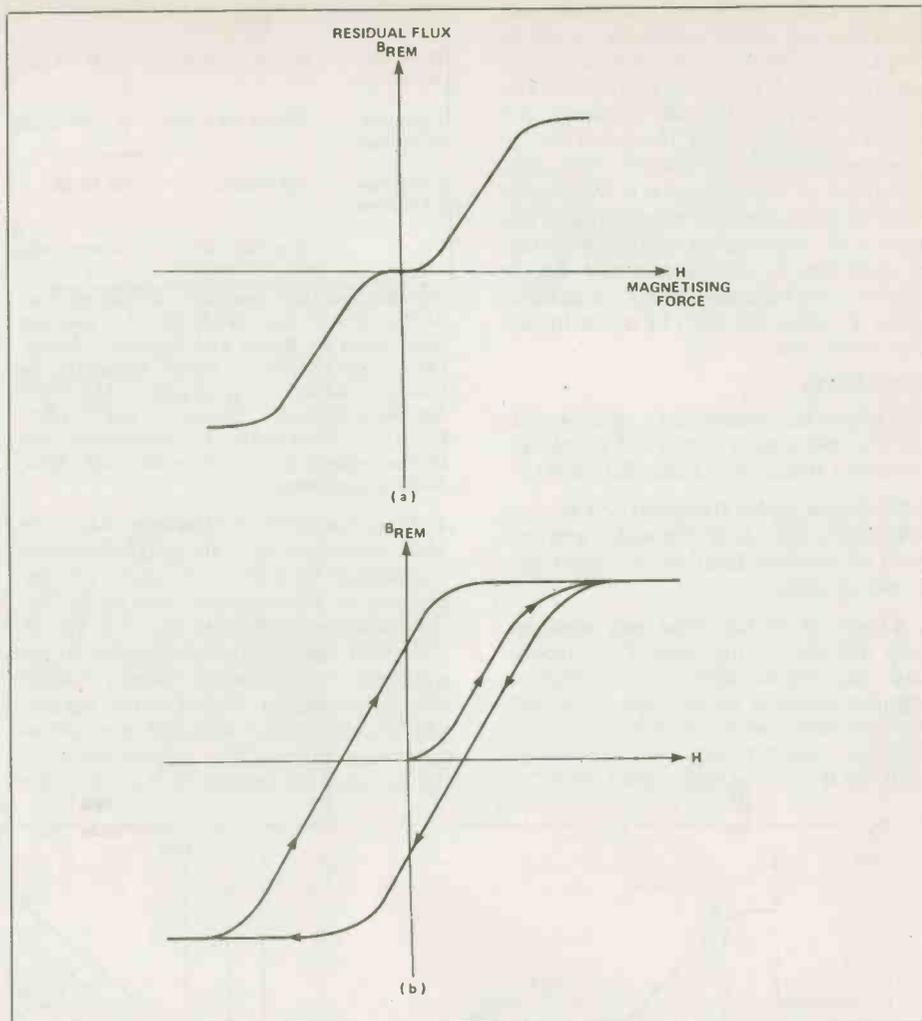

Fig. 9. Tape magnetization characteristics: (a) for small magnetizations; (b) for large magnetizations.
4. Tape, magnetic non-linearity: All of the above problems pale into insignificance in comparison with the high degree of non-linearity of the magnetic tape itself. The characteristics of this are shown in Fig. 9. If a small signal current is applied to the windings of the recording head (which is an electro-magnet with a small parallel gap held in contact with the tape, set as accurately as possible, perpendicular to the direction of motion of the tape), the